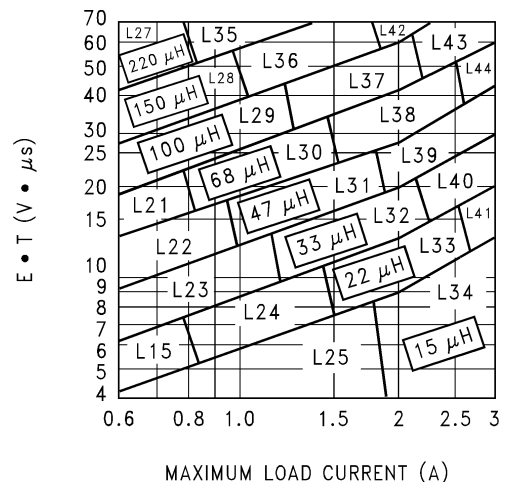

Figure 24. LM2596-ADJ
2. Inductor Selection (L₁) A. Calculate the inductor Volt • microsecond constant E • T (V • μs), from the following formula: $E \cdot T = (V_{IN} - V_{OUT} - V_{SAT}) \cdot \frac{V_{OUT} + V_D}{V_{IN} - V_{SAT} + V_D} \cdot \frac{1000}{150 \text{ kHz}} (V \cdot \mu s)$ <p>where</p> <ul style="list-style-type: none"> V_{SAT} = internal switch saturation voltage = 1.16V V_D = diode forward voltage drop = 0.5V (4) <p>B. Use the E • T value from the previous formula and match it with the E • T number on the vertical axis of the Inductor Value Selection Guide shown in Figure 24.</p> <p>C. on the horizontal axis, select the maximum load current.</p> <p>D. Identify the inductance region intersected by the E • T value and the Maximum Load Current value. Each region is identified by an inductance value and an inductor code (LXX).</p> <p>E. Select an appropriate inductor from the four manufacturer's part numbers listed in Table 3.</p>	2. Inductor Selection (L₁) A. Calculate the inductor Volt • microsecond constant (E • T), $E \cdot T = (28 - 20 - 1.16) \cdot \frac{20 + 0.5}{28 - 1.16 + 0.5} \cdot \frac{1000}{150} (V \cdot \mu s)$ $E \cdot T = (6.84) \cdot \frac{20.5}{27.34} \cdot 6.67 (V \cdot \mu s) = 34.2 (V \cdot \mu s)$ (5) <p>B. E • T = 34.2 (V • μs)</p> <p>C. I_{LOAD(max)} = 3A</p> <p>D. From the inductor value selection guide shown in Figure 24, the inductance region intersected by the 34 (V • μs) horizontal line and the 3A vertical line is 47 μH, and the inductor code is L39.</p> <p>E. From the table in Table 3, locate line L39, and select an inductor part number from the list of manufacturers part numbers.</p>